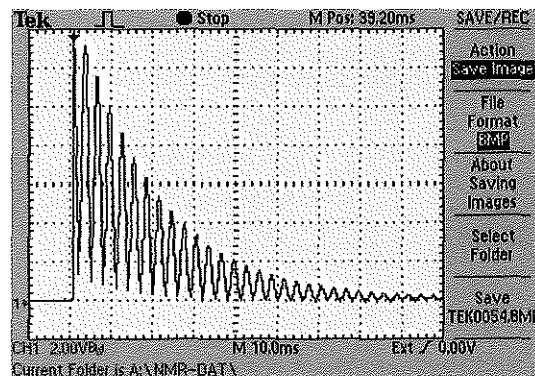

Figure 6 – Oscilloscope Trace of Multiple Echoes
The waveform in Figure 6 shows an even more extreme example of aliasing. The 2.007 kHz signal was obtained from fluorine nuclei in a 25-gram sample of hexafluorobenzene,  $C_6F_6$ . The oscilloscope sweep speed was 50 ms/Div, and the oscilloscope sample frequency was 2 kHz. Here, the signal and sample frequencies differ by only 7 Hz, which is identical to the apparent frequency of the sampled waveform observed on the oscilloscope screen.
**Figure 6.** 2.007 kHz fluorine signal from a 25-gram sample of  $C_6F_6$ . The oscilloscope sample frequency was 2.000 kHz. The digitized waveform appears to have a frequency equal to the difference, 7 Hz.
**Fig. B7.** Same as Figure 6, except the oscilloscope sample frequency was reduced to 1.040 kHz. Since the oscilloscope displays 100 samples per division, the equivalent sweep speed is 96 ms/Div.